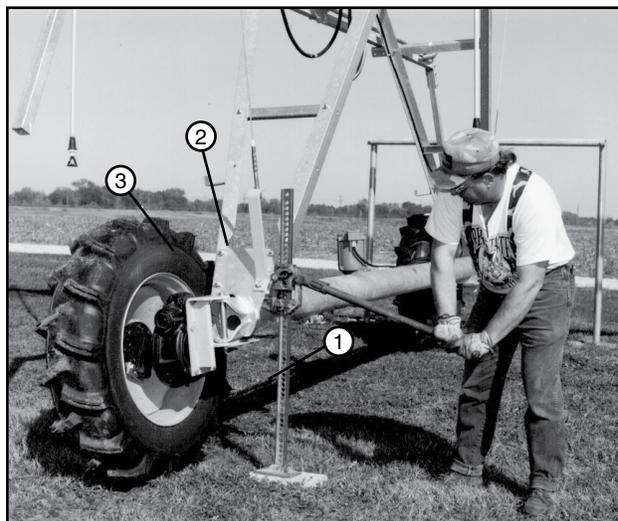

Figure 62-3 1. Jack 2. Drive Unit 3. Tire
3. The wheels on each drive unit must be turned into the tow position. Use a jack to lift one side of the drive unit until the tire is off of the ground. See Figure 62-3.